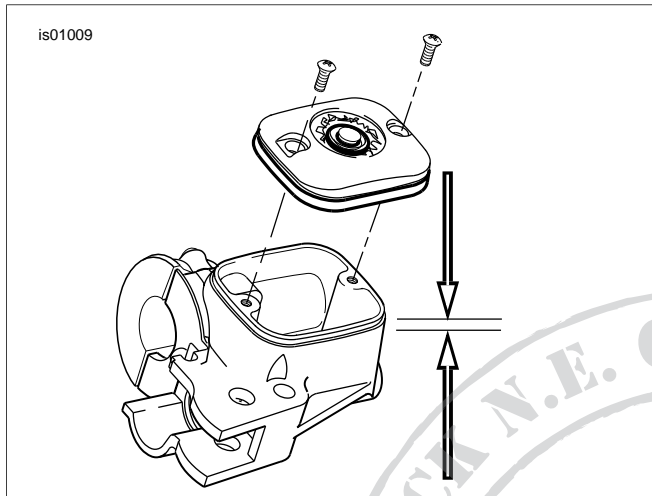

Figure 6. Reservoir Fill Level 1/8 in. (3.2 mm) Below Gasket Surface
- See Figure 6. Add the correct type of BRAKE FLUID to the master cylinder reservoir until the fluid level is 1/8 inch (3.2 mm) from the top. Do not reuse old brake fluid. Use only D.O.T. approved brake fluid from a sealed container.